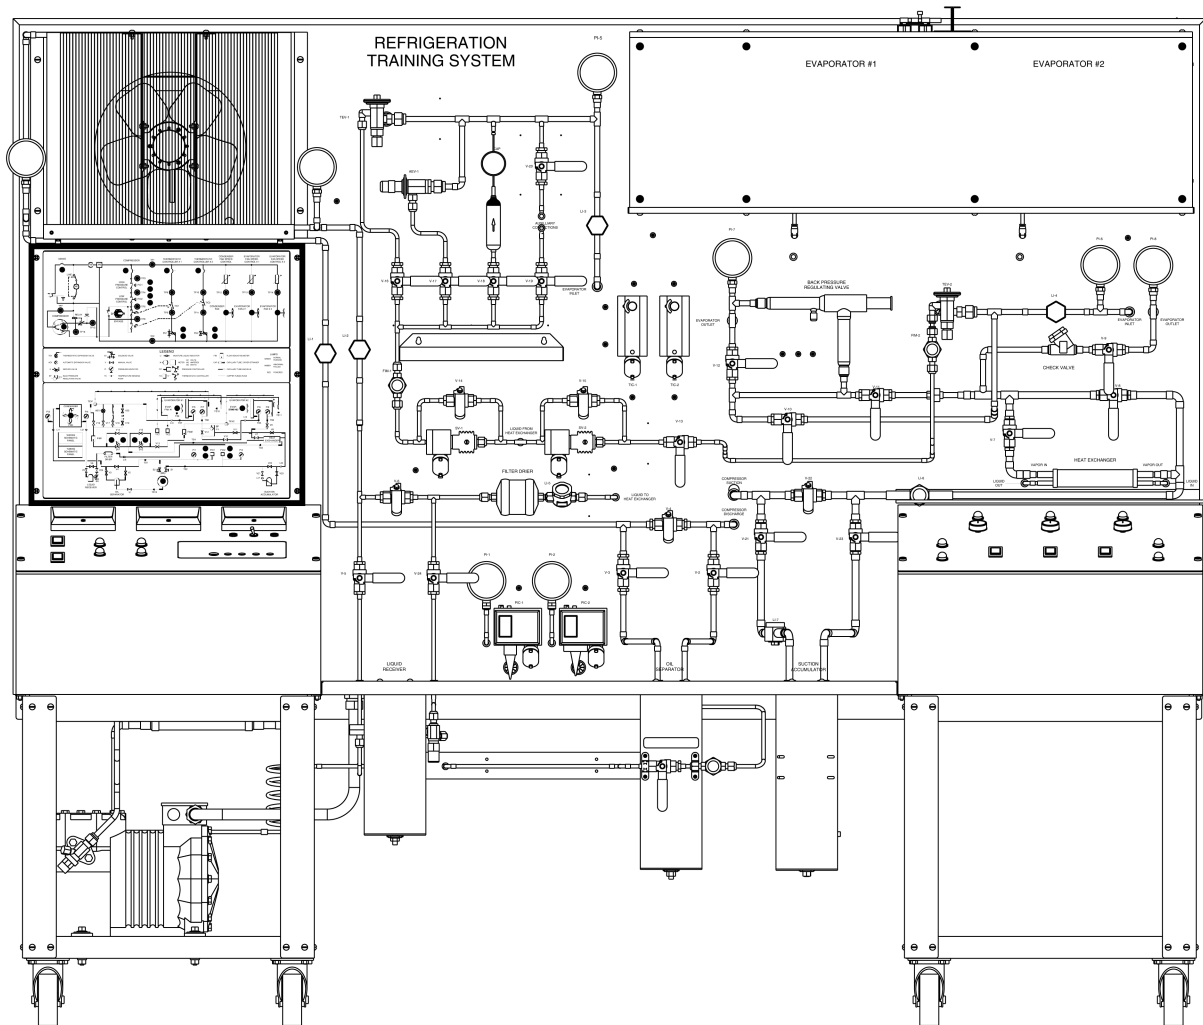

Figure 1-5. Refrigeration System Trainer.
The Refrigeration System Trainer is shown in Figure 1-5. All necessary devices required to learn the principles of different refrigeration systems are mounted on this panel. Each device can be added to, or removed from, the basic refrigeration system by opening or closing the appropriate manual valve. These devices are all identified on the schematic panel (tubing section), using symbols shown in the legend. This panel also has test points (TP) and temperature sensor points (TS) indicating the location of the voltage and temperature measurement points throughout the system.